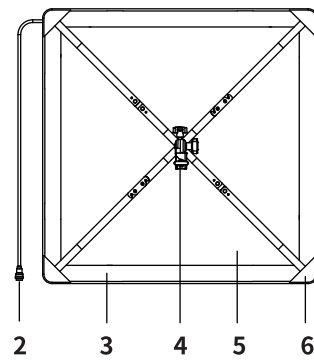
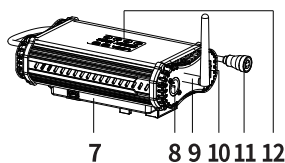

Fig4 S-2630 (for example)
Fig5 S-2610
- (1).The light is thin, soft and light weight so it can bend to use
- (2).Joint the light using the Velcro tape
- (3).Use the Velcro tape to fix the light on the back of the chair, car roof or other narrow and small places.
- (4).Use the X-frame to fix the light (Fig4)
For clients who buy diffuser and ball diffuser, please install the X-frame to fix the light first (Fig4), then fix the diffuser and ball diffuser using the Velcro tape.
1.2 Please reliably connect the control box output cable (Fig 5 No.11) with light input connection cable (Fig4 No.2)